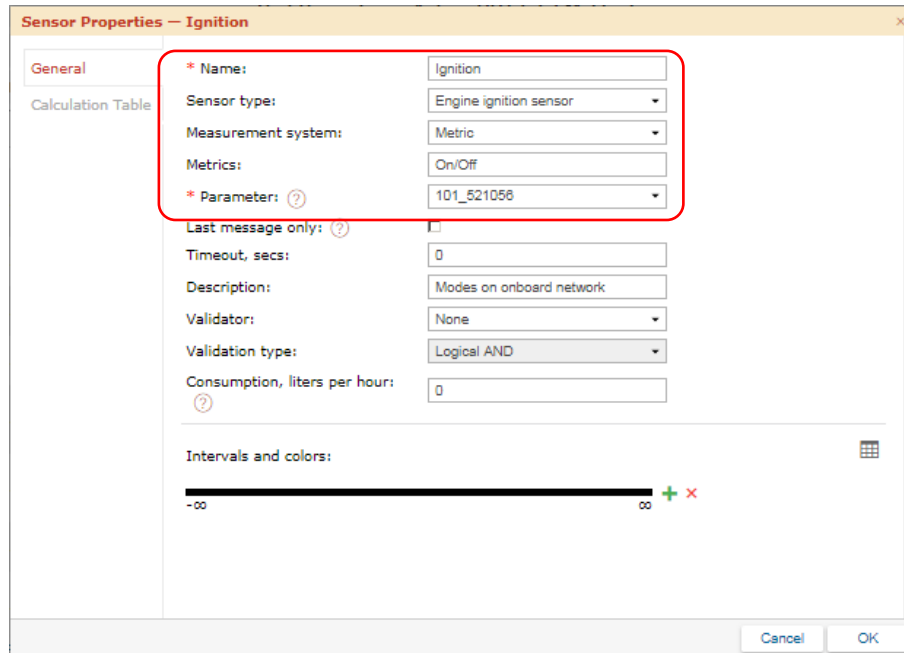

Figure 6 – Settings window of Engine ignition sensor
6) Create Engine ignition sensor using Vehicle Power Supply Status as a template, i.e. copy and rename (see figure 6)